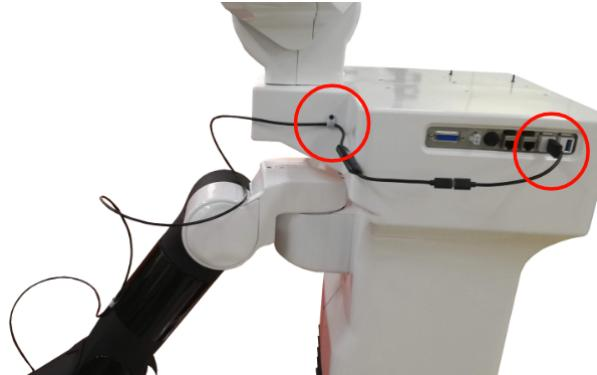

Figure 181: Mounting point on the torso and USB connection.
- Run the following motion to better install the fixation point lateral side of the upper part of the torso as shown in figure 181, using the fastener shown in figure 177c:
- Finally plug the USB connector to one of the ports on the expansion panel as shown in figure 181.